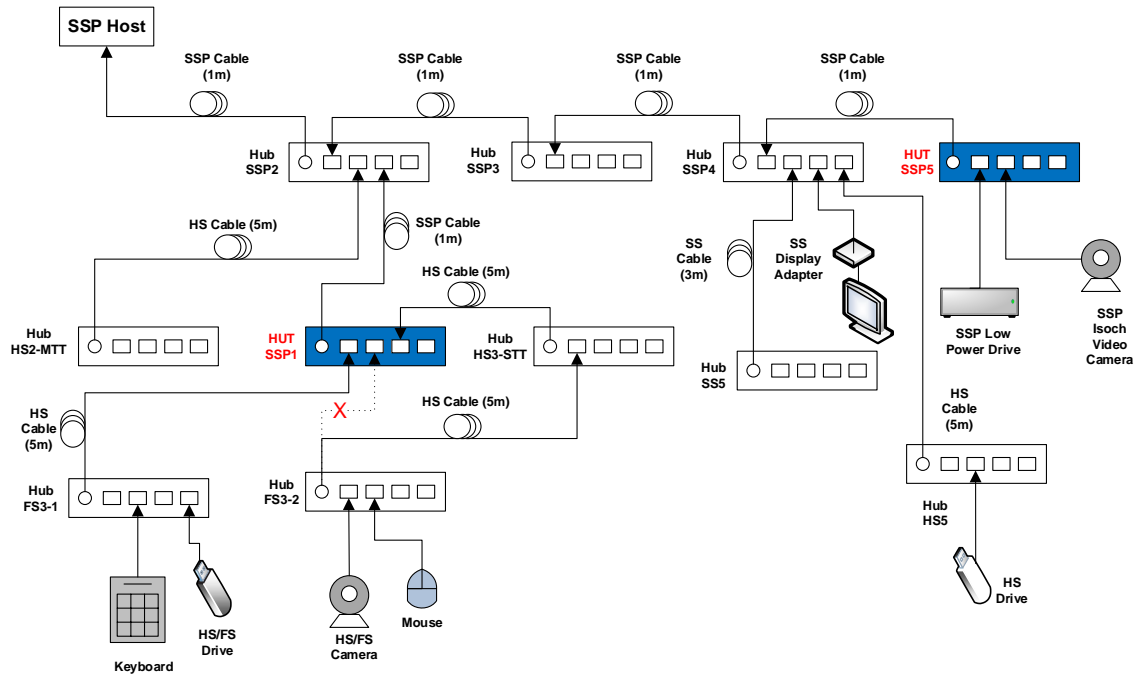
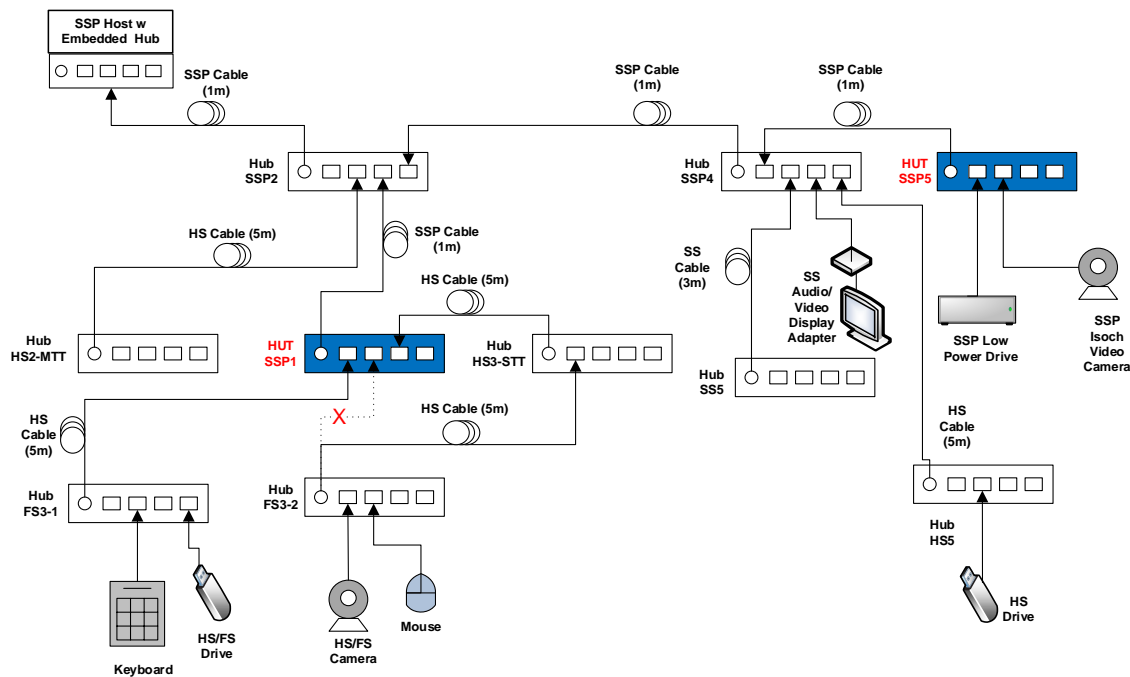

Figure 3-5: Topology Change 1 - Single-TT Hubs Only
Figure 3-6: Topology Change 1 - Single-TT Hubs Only (embedded hub)
- Detach Hub FS3-2 from port 2 on the Hub Under Test and attach the Hub FS3-2 to port 1 on Hub HS3-STT. This should set the configuration to what is displayed in Figure 3-5 and Figure 3-6.